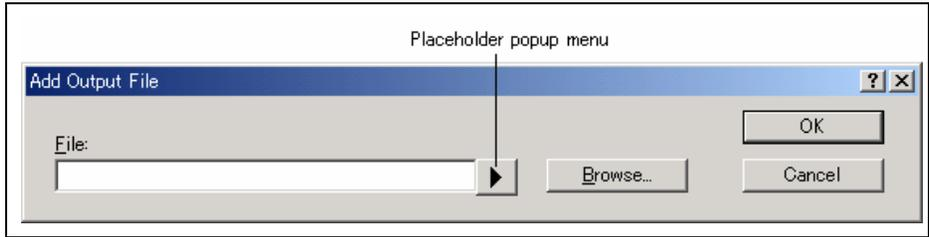

Figure 3.13: Add Output File Dialog
1. Click "Add...". The "Add Output File" dialog will be invoked (figure 3.13).
2. Click “Modify...”. The “Modify Output File” dialog, which is the same as figure 3.13 except the title, will be invoked.